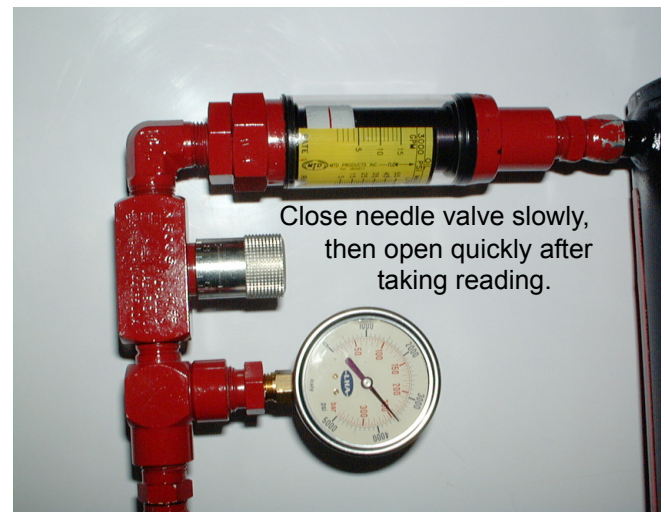

Figure 1
6. Momentarily close the needle valve completely, record the PSI gauge and immediately open the needle valve back up. _____ See Figure 1.